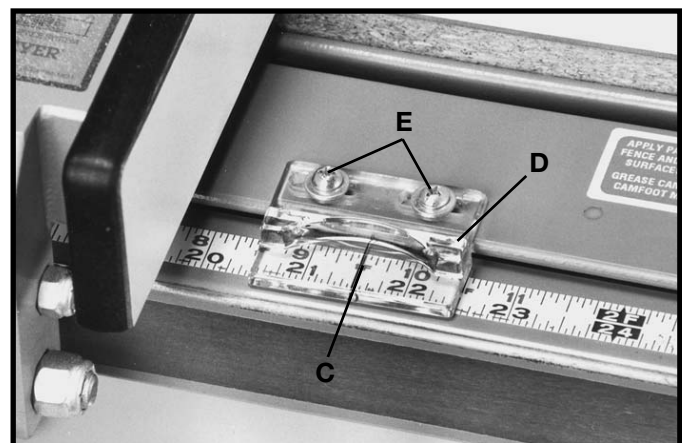

Fig. 52
3. The distance the fence is positioned away from the blade is indicated by the witness line (C) Fig. 52, located on the cursor (D). If it is necessary to adjust the cursor (D), make a test cut with the fence locked in position. Measure the width of the finished cut and adjust the cursor (D) by loosening the two screws (E), adjusting the cursor (D) until the witness line (C) is aligned with the same marking on the scale as the finished cut. Then tighten the two screws (E).